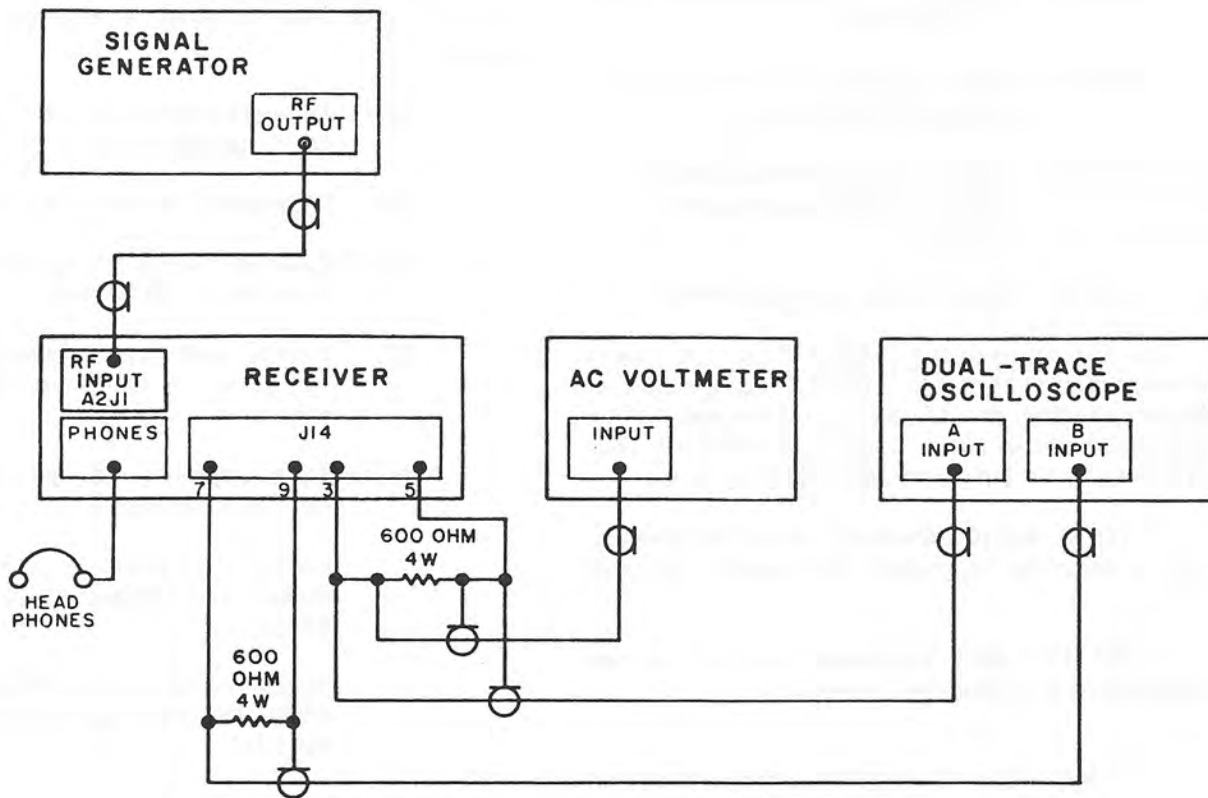

Figure 4-2. Detection Mode Performance, Test Setup
(1) A signal generator, ac voltmeter, dual-trace oscilloscope, headphones, and two 600-ohm resistors are needed for this test.
(2) The test equipment is set up and connected as shown in figure 4-2.